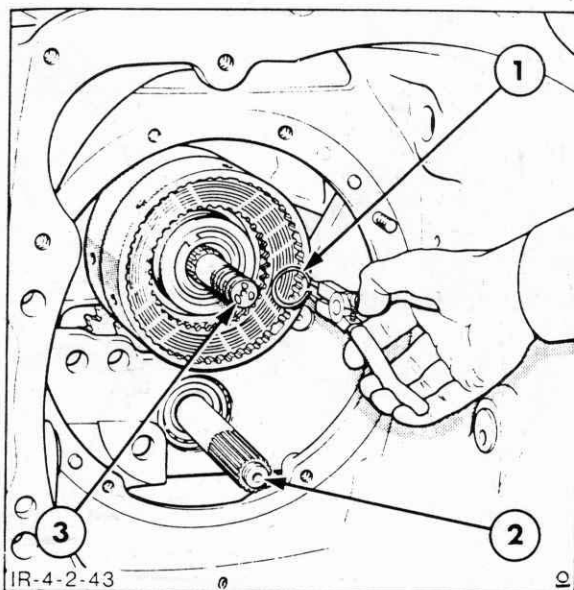

Figure 4-136
3. Remove the snap ring, Figure 4-136, then pull the clutch housing from the rear input shaft.
3. Retain the clutch on the shaft by installing the appropriate snap ring, Figure 4-136.